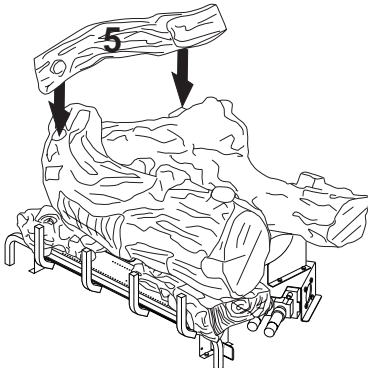

Figure 35 - Installing Log #5
5. Place top left log (#5) onto rear log (#1) and front log (#3). Match round peg on bottom of top left log (#5) with round hole in front log (#3) and square hole in log #5 with square peg on log #1 (see Figure 35).